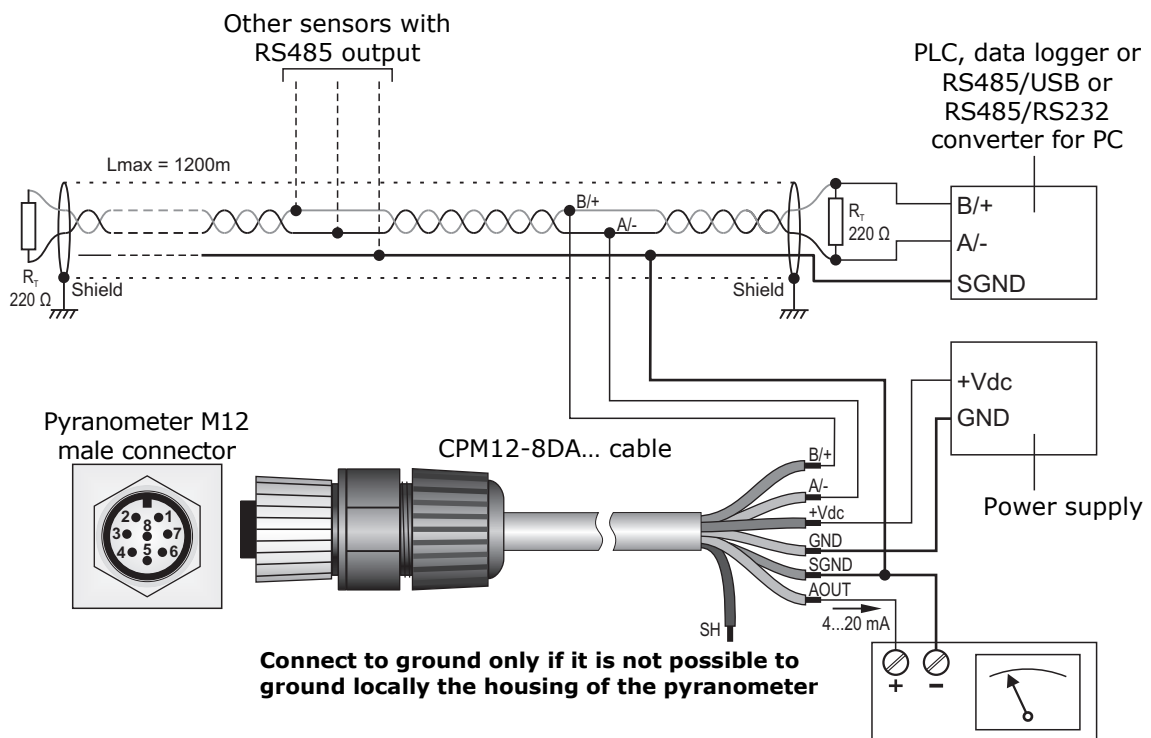

Fig. 4.6: LPPYRA02ACS[4] connections
- One **4...20 mA** output, requiring **10...30 Vdc** external power supply. It is to be connected to a power supply and an instrument with 4...20 mA input as shown in fig. 4.6. The load resistance of the instrument reading the signal must be $\leq 500 \Omega$.
- One **RS485 Modbus-RTU** output, requiring **5...30 Vdc** external power supply. It is to be connected to a power supply and to a PLC, a data logger or a RS485/USB or RS485/RS232 converter for PC as shown in fig. 4.6. The RS485 output is not isolated.